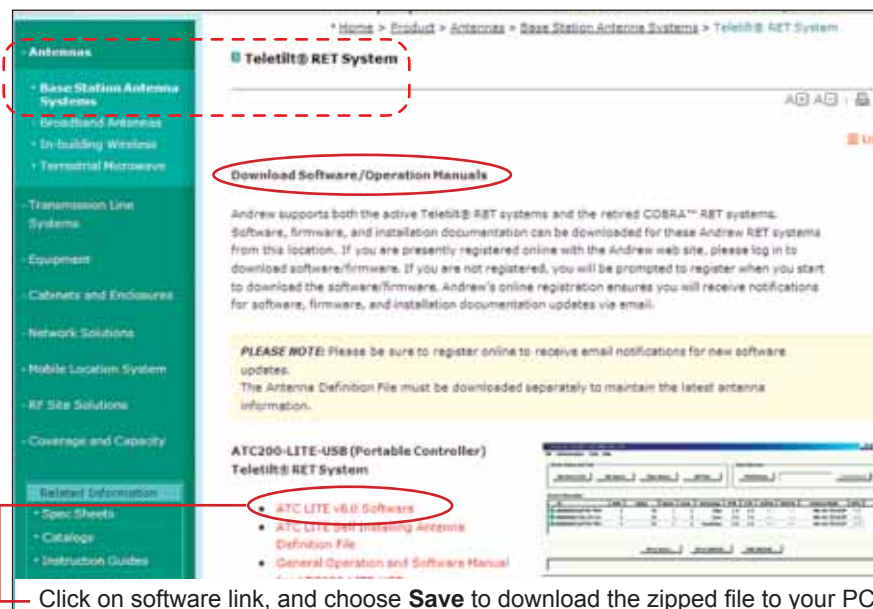

Figure 1. ATC200-LITE-USB Controller Software Download.
- Download the ATC Lite software zip file. From the Andrew→Products tab on www.commscope.com, click on Antennas→Base Station Antenna Systems→Teletilt RET System→Downloads→Teletilt RET Products Software, Firmware, Tools, and Manuals. Select the **ATC Lite v6.0 Software** link (See Figure 1).